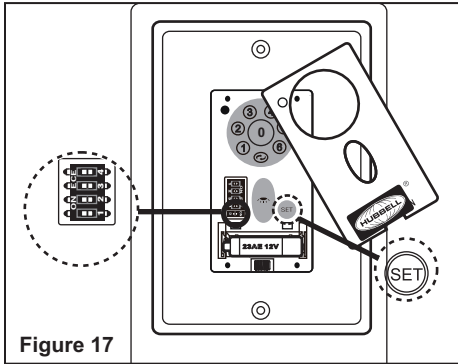

Figure 17
a) Select desired frequency from the transmitter. The dip switches can be set to 16 different combinations. (Fig. 17)
b) From the front of the transmitter, with the fan's power off, restore power to the fan. Press and hold “SET” button for about 5 seconds and release. The signal light on the wall transmitter will come on when the button is pressed. The fan has completed the pairing process with the wall control and is ready for use. (Fig. 17)